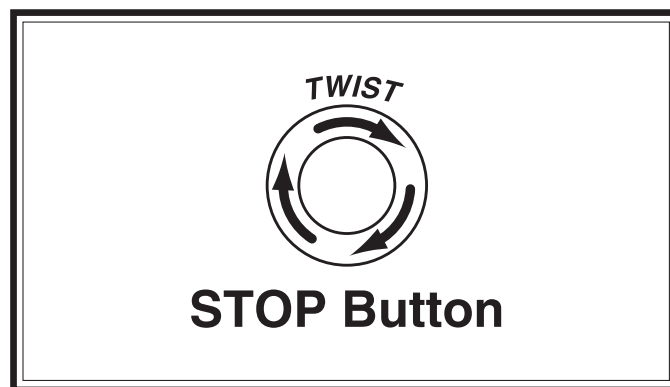

Figure 25. Resetting the switch.
6. Twist STOP button clockwise until it springs out (see **Figure 25**). This resets the switch so machine can start.